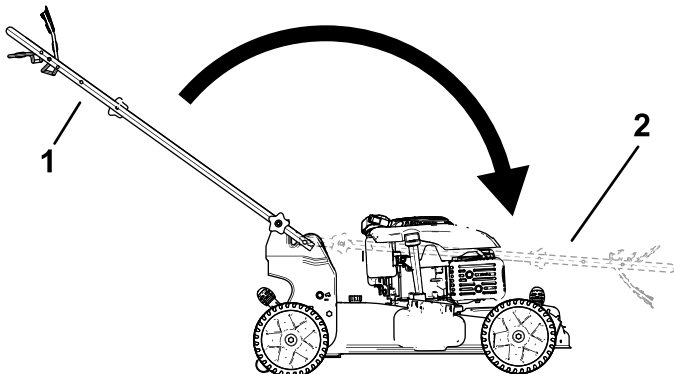

Figure 19
2. Fold the handle by rotating it forward (Figure 19).